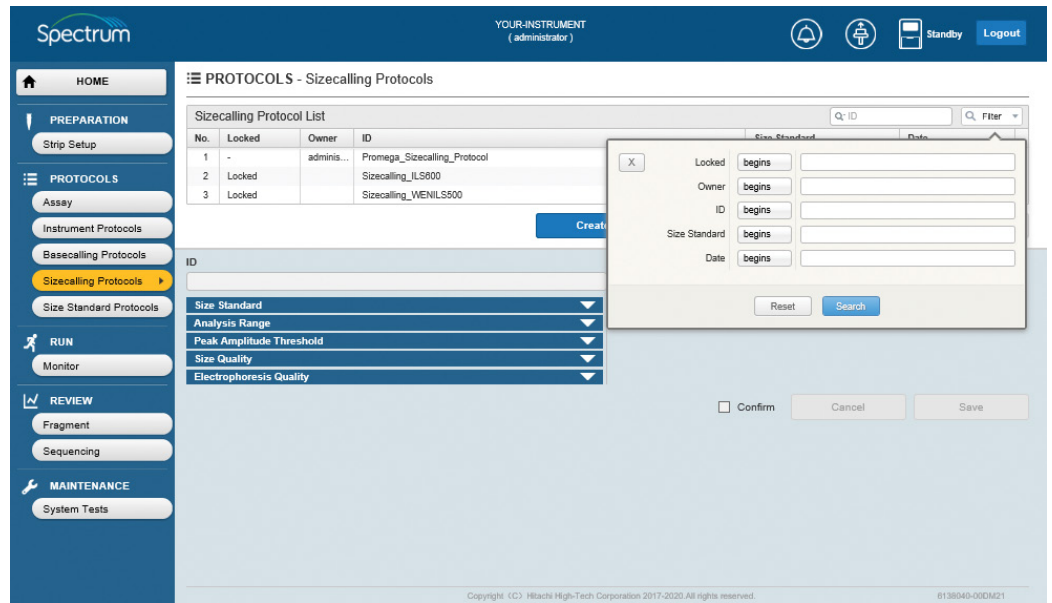

Figure 58. Sizecalling Protocol List search filter option selection.
3. After selecting the appropriate search field, select the magnifying glass or down arrow icon in the Filter box to display filtering options by the different fields (Figure 58).